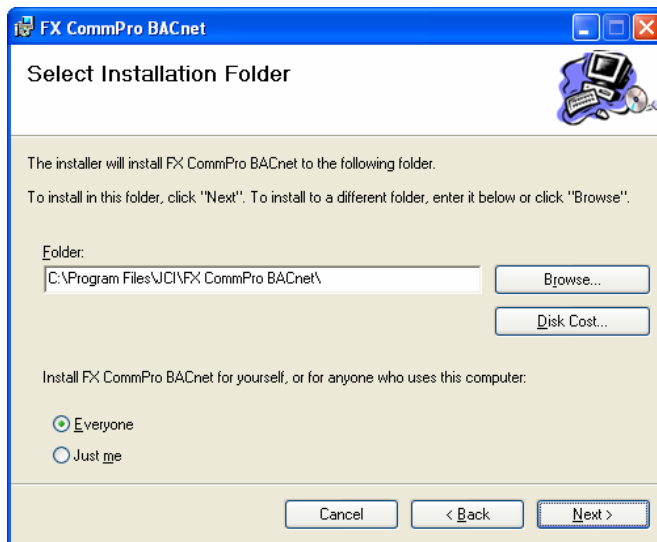

Figure 3: Destination Folder Window
4. Click Next. The Select Destination Folder window appears (Figure 3).